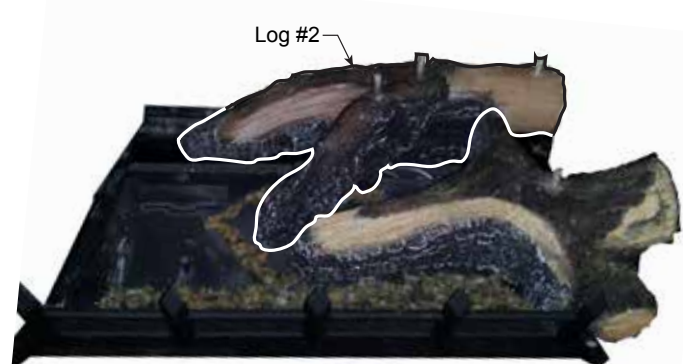

Figure 37
2. Place bottom rear right log #2 on pin on rear of grate assembly and push towards rear as far as possible. *Figure 37*